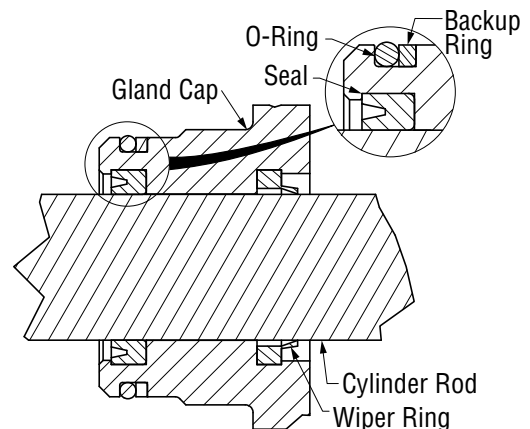

Figure 5-42, Gland Cap Seal
4. Install the seals and wipers in the gland cap. Note the direction of the seals. The cupped side or O-ring side of the seal should be facing the piston. (Figure 5-42)